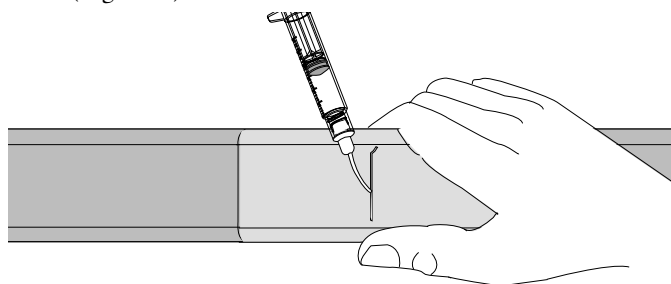
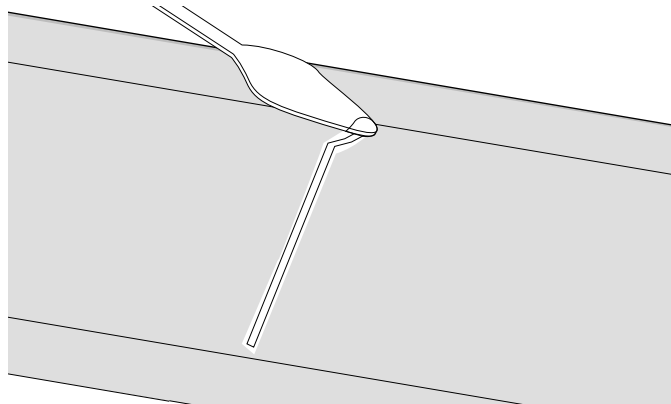

Figure 7
Figure 8
4.7 Insert the syringe tip into the split and fill the split with RTV (Figure 7). Relax the closure and let the excess RTV squirt out of the split. Some of the excess RTV will need to be removed with a spatula. Only leave a small bead of RTV in the split joint. Also be careful not to get RTV on overmold surfaces other than the damaged area itself (Figure 8).